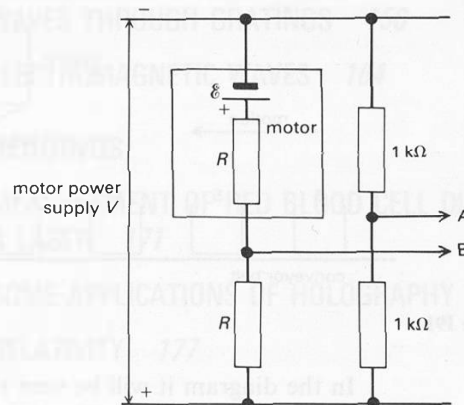

Figure I90
- a Show that in the circuit of figure I90 the p.d. between A and B is $\mathcal{E}/2$.